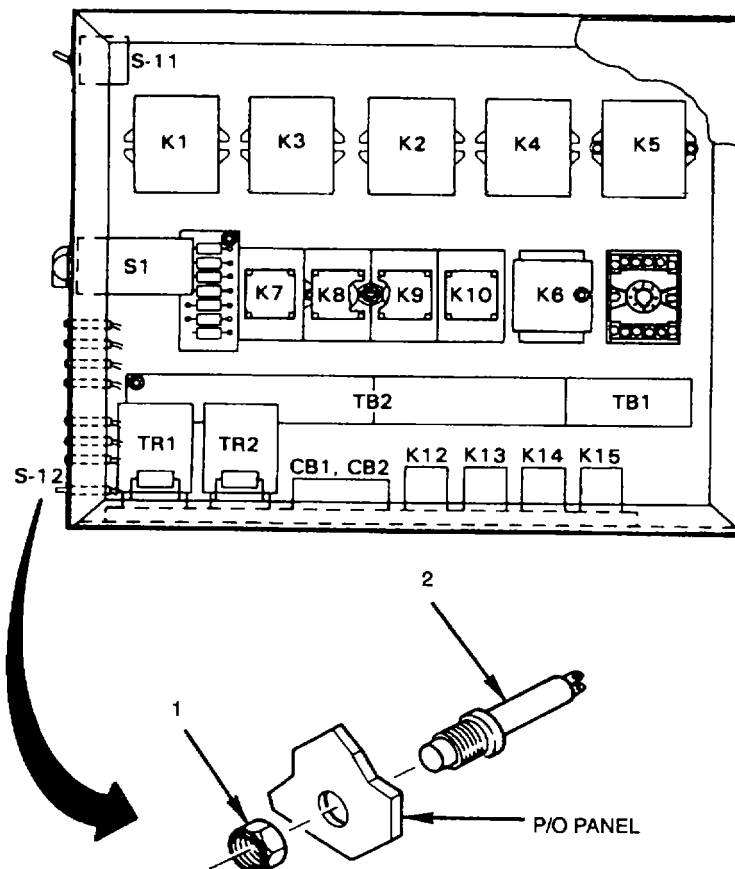

Figure 4-21. Fault Reset Switch (S12)
- b. Check that leads are not loose or broken. Tighten loose leads Replace if defective (see fig 4-21).